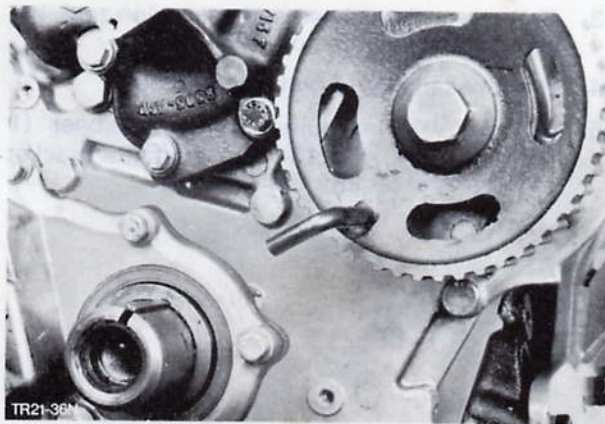

Fig. 132. Lock camshaft gear using Special Tool 21-016
10. Lock camshaft gear using Special Tool 21-016, Fig. 132, remove bolt and press off gear by means of two levers.